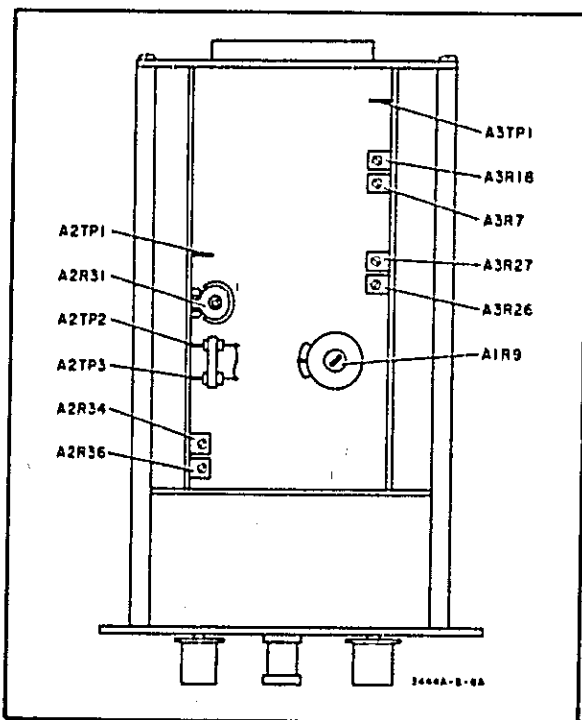

Figure 5-5. Location of Adjustments
5-13. The following procedures should be performed only after it has been definitely determined by the Performance Checks given in Paragraph 5-5 through 5-11 that the Model 3444A is out of specifications. Figure 5-5 shows the location of adjustments and test points. If calibration cannot be accomplished in accordance with this procedure, refer to the Troubleshooting information in Paragraph 5-18.
- e. Set RANGE to 1000 mV. Adjust A2R31 (see Figure 5-5) for a zero readout and flashing polarity indication. Remove INPUT short.